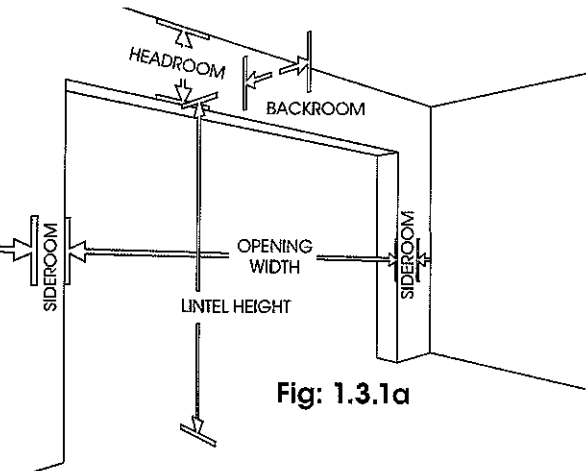

Fig: 1.3.1a
**opening width** - As the standard door overlaps each side by 30mm or more, the door should be 60mm wider than the opening. A wider door like NEO R1N (40mm each side overlap, 80mm wider than opening) can be fitted as long as additional sideroom and fixing is available. **(Fig 1.3.1a)** Max drive through heights for each door height are listed in **Fig 1.3.1b**. Wind-Locked doors require additional overlap dependent on the substrate, consult the B&D High Wind Certification Drawings for more detail.